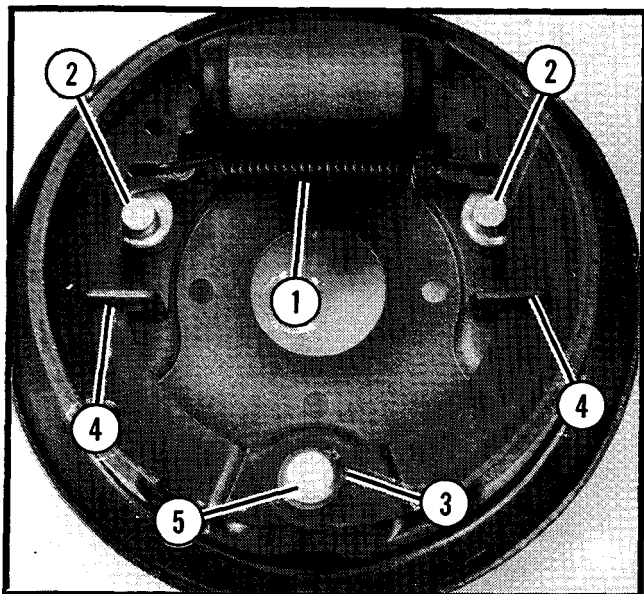

Figure 5.
- The ends of the shoes that fit over the heel pin are offset and must be installed as shown. The shoes must also fit freely into the guides. See Figure 5.
2. Replace the retaining ring. Make sure the upper ends of the shoes fit properly into the wheel cylinder. Replace the return spring. See Figure 5.
3. Loosen the lock nut on the heel pin. See Figure 5. Press the brake pedal firmly to expand and center the shoes in the drum. Tighten the heel pin lock nut while maintaining pedal pressure. Release pressure on the pedal to allow the brake shoes to retract.
4. Loosen the lock nut on each adjusting pin. Adjust each brake shoe individually by placing a wrench on the adjusting pin and turning the wrench up (both sides) until slight resistance is felt while rotating the wheel assembly, then back off slightly. See Figure 5. Turn the wheel to be sure the shoes are not dragging.